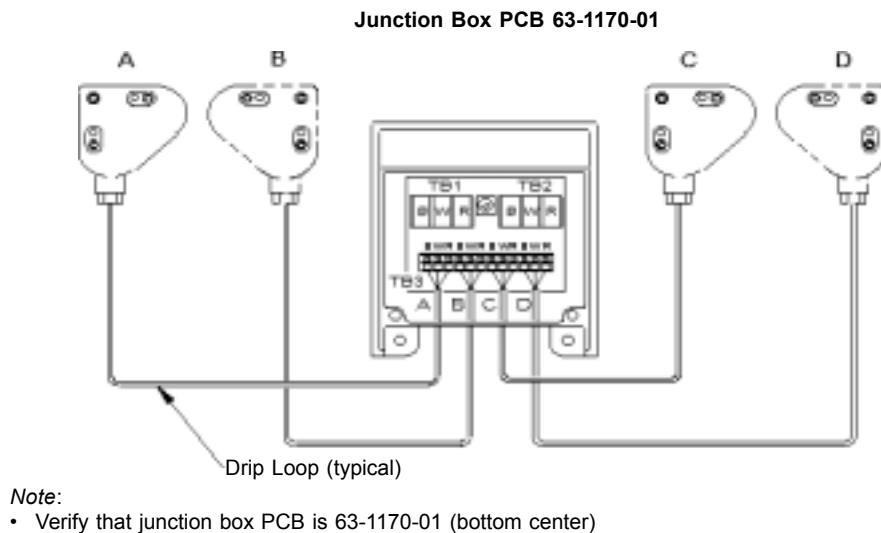

Figure 4-16. Wiring L-Cells to Junction Box
**Ensure you have this PCB in the junction box (see Figure 4-16).**
2. See Figure 4-15. Place a plastic washer on a watertight fitting. Thread the L-Cell cable through a cap and watertight fitting. Leave an adequate length of cable between the L-Cell and fitting to provide a drip loop. (see Figure 4-16).
4. See Figure 4-16. In the bottom of the junction box, locate one of the four small holes closest to the terminal you will use for that L-Cell. Screw the watertight fitting into the hole.